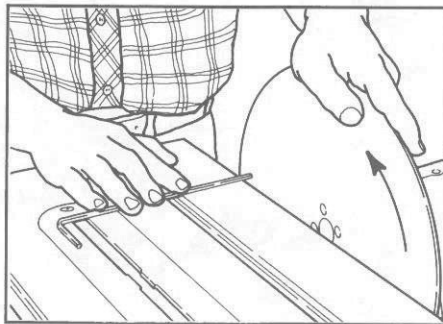

Figure 1. Finding the disc high spot.
c. Place the 5/32" Allen wrench on the table so that the long end contacts the outside edge of the disc. Hold the wrench down on the table with your right hand. As the disc turns, the high spot will gently push the wrench to the right. After 2-3 revolutions the wrench will position itself to touch the high spot only. (See Figure 1.)